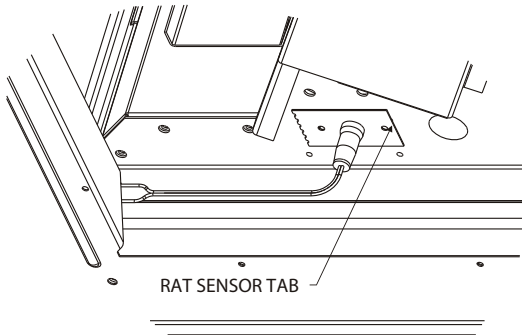

Figure 5
* If required: Secure RAT sensor with #10x16x½ screws provided with Economizer. (See Figure 5)